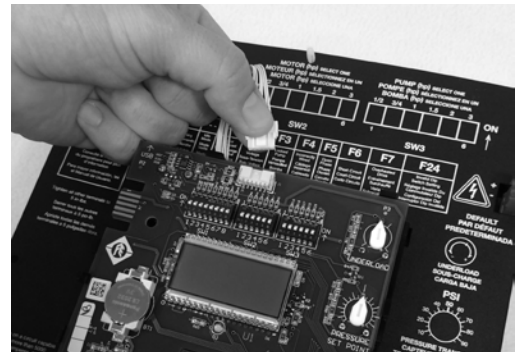

Figure 2
4. Disconnect the wire harness from the display board (Figure 2).